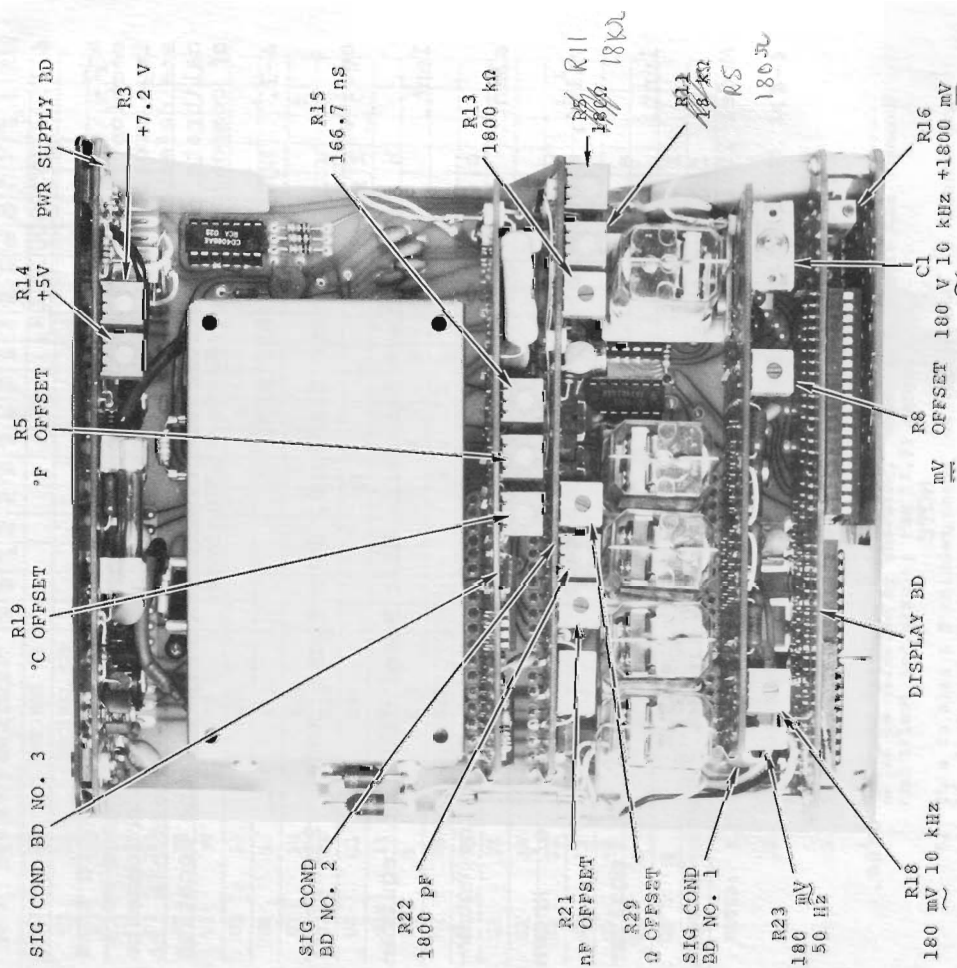

Figure 4-1. Calibration Adjustments
4-4-2. In the calibration instructions provided in this section, it is assumed that the instrument is in good working order and only requires calibration. If any components are defective, it may be difficult, if not impossible to recalibrate the instrument. Figure 4-1 displays the location of components required for adjustment.
- c. Adjust R3 on Power Supply Board (figure 4-1) so that voltage across capacitor measures  $+7.2$  VDC  $\pm 0.05$  VDC.
- c. Adjust R3 on Power Supply Board (figure 4-1) so that voltage at the 2A fuse measures  $+7.2$  VDC  $\pm 0.05$  VDC with respect to ground.
- c. Adjust R14 on Power Supply Board (figure 4-1) so that voltage at pin 1 of any plug-in board measures  $+5.00$  VDC  $\pm 0.05$  VDC with respect to ground (pin 3).
c. Adjust R14 on Power Supply Board (figure 4-1) so that voltage at pin 1 of any plug-in board measures +5.00 VDC  $\pm 0.05$  VDC with respect to ground (pin 3).
c. Press mV (DC) switch and then left decimal switch.
e. Adjust R8 on Signal Conditioning Board No. 1 (figure 4-1) so that readout displays + or - 0.00.
b. Press PWR ON switch and then mV (DC) switch.
d. Adjust R16 on display board (figure 4-1) so that readout displays +1800.
c. Press mV (AC) switch and then mid decimal switch.
e. Adjust R23 on Signal Conditioning Board No. 1 (figure 4-1) so that readout displays 180.0.
g. Adjust R18 on Signal Conditioning Board No. 1 (figure 4-1) so that readout displays 180.0.
a. Press V (AC) switch and then mid range switch.
c. Adjust C1 on Signal Conditioning Board No. 1 (figure 4-1) so that readout displays 180.0.
- e. Adjust R29 on Signal Conditioning Board No. 2 (figure 4-1) so that readout displays 00.0.
- e. Adjust R5 on Signal Conditioning Board No. 2 (figure 4-1) so that readout displays 180.0.
- h. Adjust R11 on Signal Conditioning Board No. 2 (figure 4-1) so that readout displays 18.00.
- k. Adjust R13 on Signal Conditioning Board No. 2 (figure 4-1) so that readout displays 1800.
- e. Adjust R21 on Signal Conditioning Board No. 2 (figure 4-1) so that readout displays 00.0.
- c. Adjust R22 on Signal Conditioning Board No. 2 (figure 4-1) so that readout displays the known value.
- e. Adjust R15 on Signal Conditioning Board No. 3 (figure 4-1) so that readout displays 166.7.
- e. Adjust R19 on Signal Conditioning Board No. 3 (figure 4-1) so that readout displays +025.
- c. Adjust R5 on Signal Conditioning Board No. 3 (figure 4-1) so that readout displays +077.